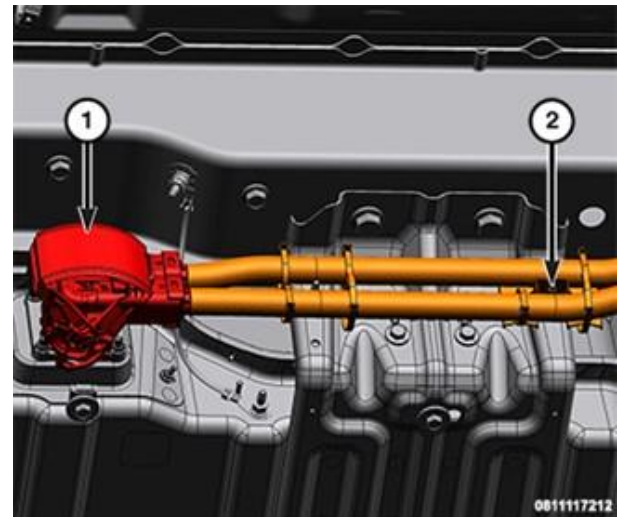

Figure 38 – PIM Wire Harness Connector
54. Disengage the two wire harness retainers (2) from the high-voltage battery (Figure 38).
55. Unlock and disconnect the Power Inverter Module (PIM) high-voltage wire harness connector (1) from the high-voltage battery. Cap the connector on the high-voltage battery with the Covers, HEV Battery Terminal 2035100082 (Figure 38).